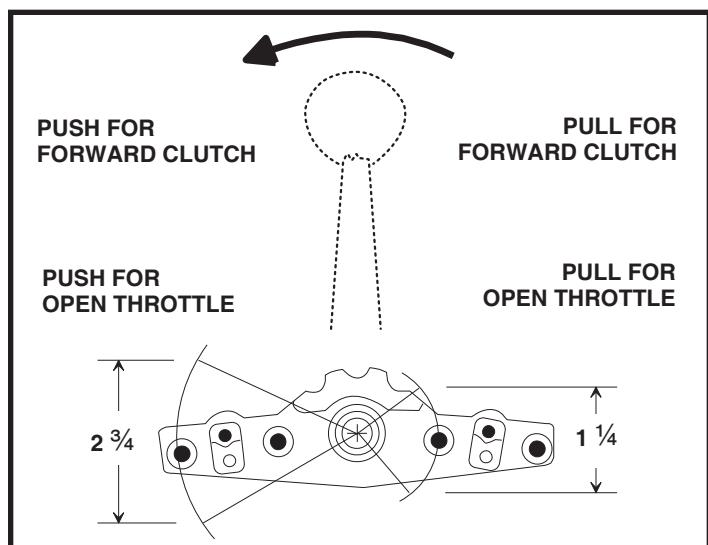

FIGURE 3
Cable will be installed in control using outer hole (2 3/4" travel) of control arm in either the push or pull mode as required. Push is toward bow and pull is toward stern of boat. (See Figure 3.)
- Determine whether push or pull cable action is required. Refer to Figure 3 on page 3.